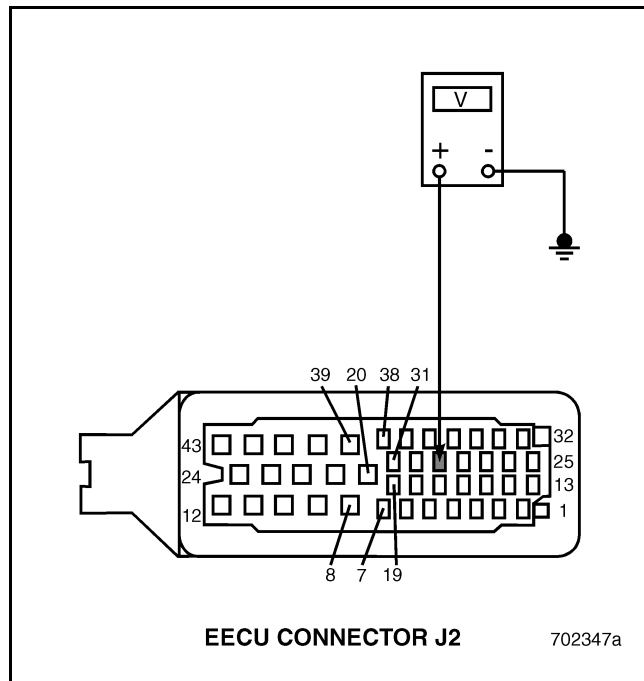

Figure 73
5. Measure the voltage between EECU harness connector J2 pin 29 and a good ground (see Figure 73).